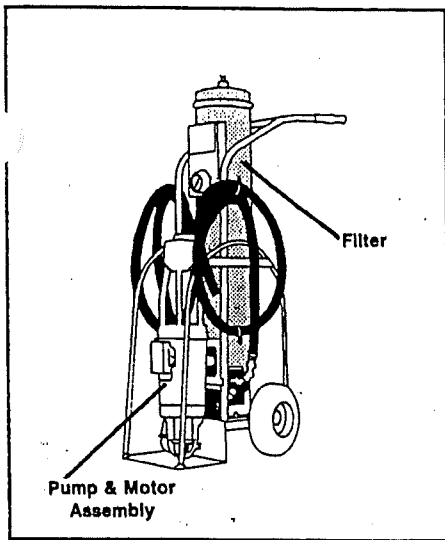

Fig. 7 Typical Portable Filter
**Portable Filters** — Portable filters supplement permanently installed system filters. Figure 7 shows a typical portable filter with a motor-driven pump which circulates fluid from the reservoir, through a fine filter, and back into the reservoir. The suction and return hoses should be connected to opposite ends of the reservoir with quick-disconnect fittings. Clean all fittings as the filter is connected to the system. Operate a portable filter for at least 24 hours on each system to ensure that the full oil charge is filtered effectively.